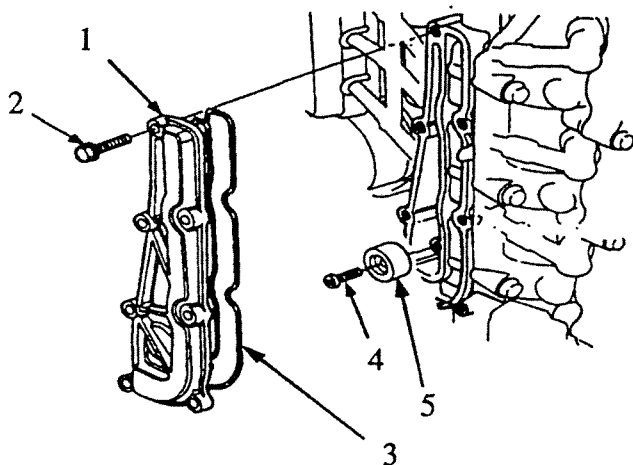

Fig. 29-1. Water Jacket and Anode
Drain the engine coolant. Then remove the coolant tank and heat exchanger assembly (see SECTION 13). Disconnect the spark-plug leads. Release the water jacket (1) by removing the seven 6 x 22mm screws (2) around its periphery and remove the water jacket and packing (3) (Fig. 29-1).